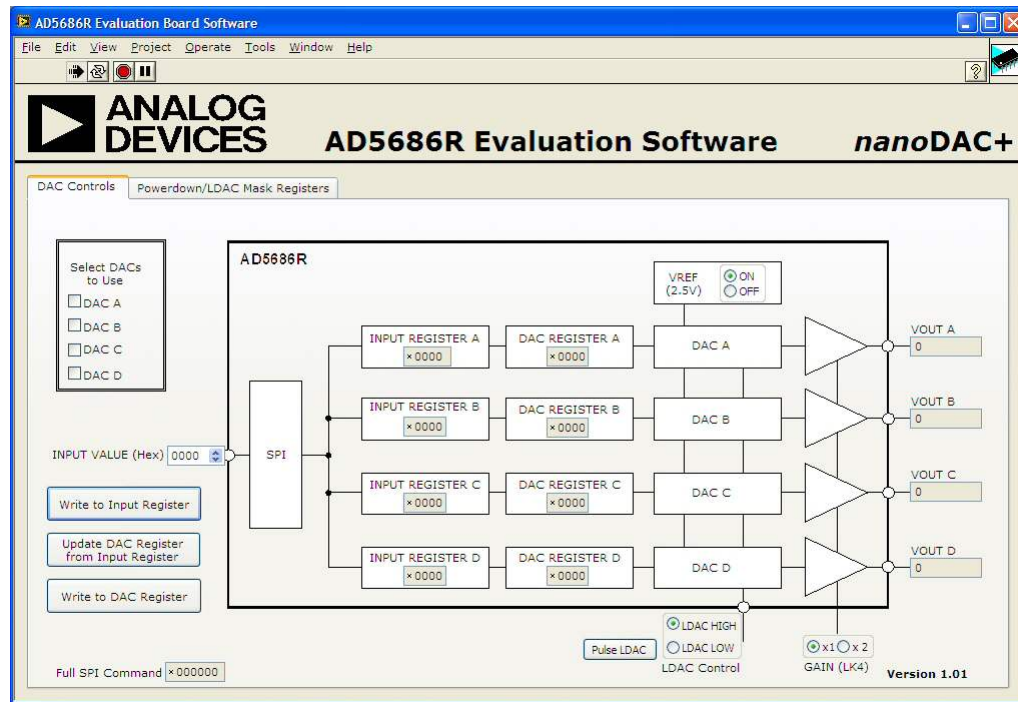

Figure 4. AD568x(R) Evaluation Board Software Main Window
Alternatively, the software can be used without an evaluation board. The software runs in simulation mode displaying expected outputs based on the input data. The main window of the AD568x(R) evaluation software then opens, as shown in Figure 4.